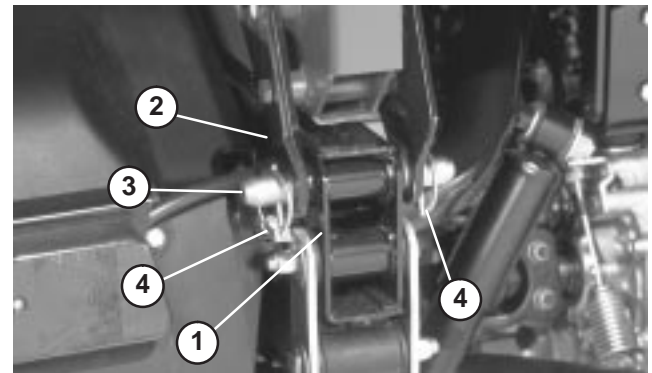

Figure 7
5. Position Topdresser onto vehicle frame, aligning holes in rear mounting brackets with holes in each side of frame (Fig. 7).
6. Secure each rear mounting bracket to vehicle frame with a clevis pin and (2) lynch pins (Fig. 7).